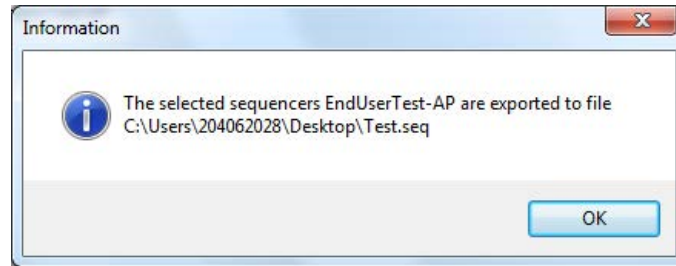

Figure 102 Sequencer Export File Confirmation
3. Navigate to the target directory, enter a filename, click **Save** and Figure 102 appears.